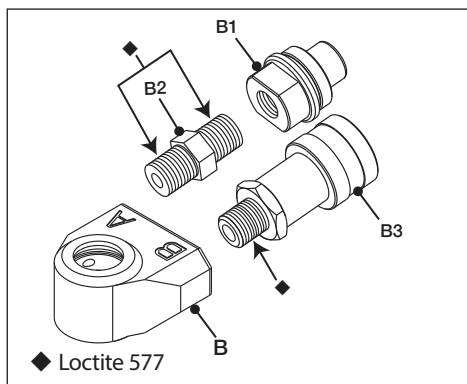

Fig. 19
**NOTICE** Install the couplings (B1 and B3) and adapter (B2) before installing the swivel (B) on the swivel post (F). Use a vise with soft jaws to hold the swivel as couplings and adapter are installed.
- Apply Loctite 577 sealant to threads on female coupling (B3) and adapter (B2). See (◆) in Figure 19 for locations.
- Install a O-ring (E) into the groove on the swivel post (F).
- Install O-rings (C) into the grooves inside the swivel assembly (B).
- Coat O-rings (E and C) with a small amount of silicone grease. Then, carefully slide the swivel assembly (B) onto the swivel post (F).
- Reinstall the circlip retainer ring (A).